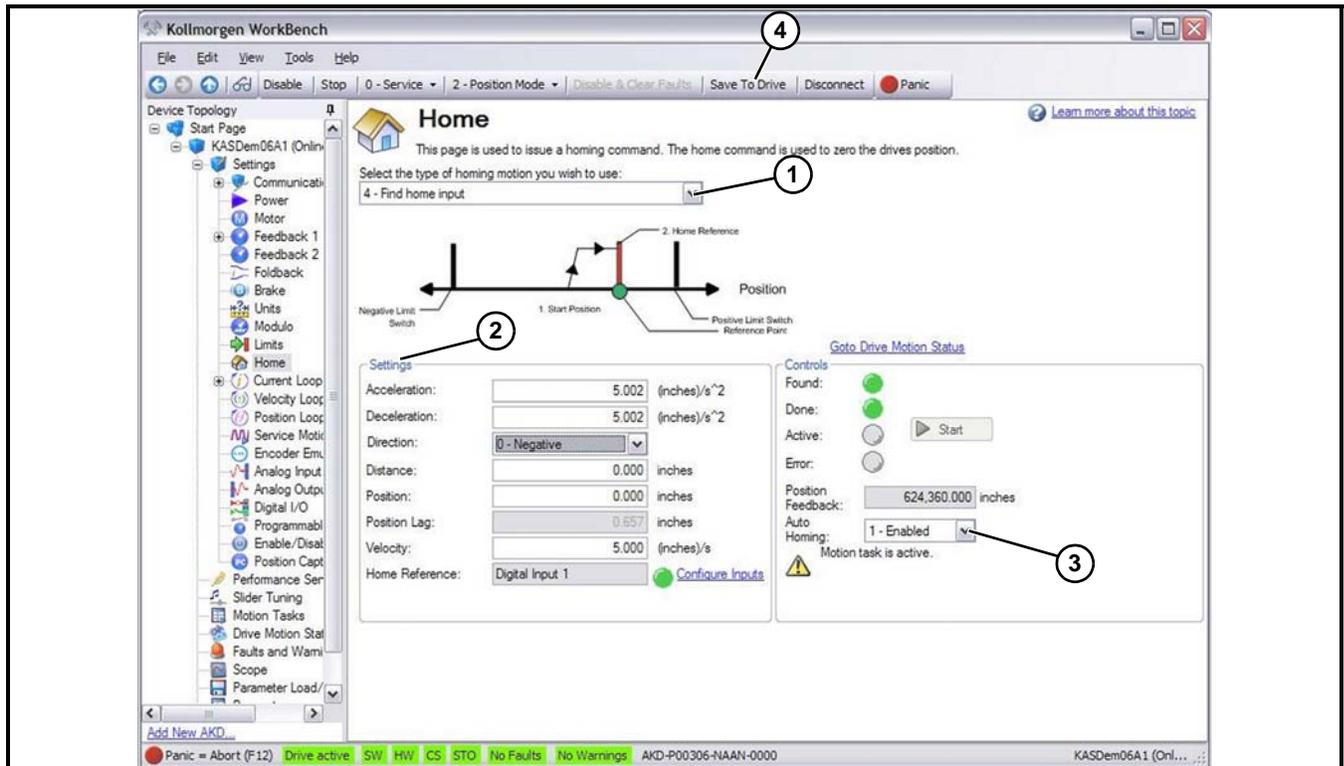

Figure 44
1. Fill in the **Select the type of homing motion you wish to use: (Figure 44, item 1)**.
2. Fill in the **Settings (Figure 44, item 2)** Values.
• Set **Auto Homing: (Figure 44, item 3)**:
-0- **Disabled** (Requires a signal to initiate Homing routine. Re-program unused digital input for signal (see “II. Programming the Homing Method” on page 45). Select DIN (X) = 5 – Start Home.)
4. Click **Save To Drive (Figure 44, item 4)**.